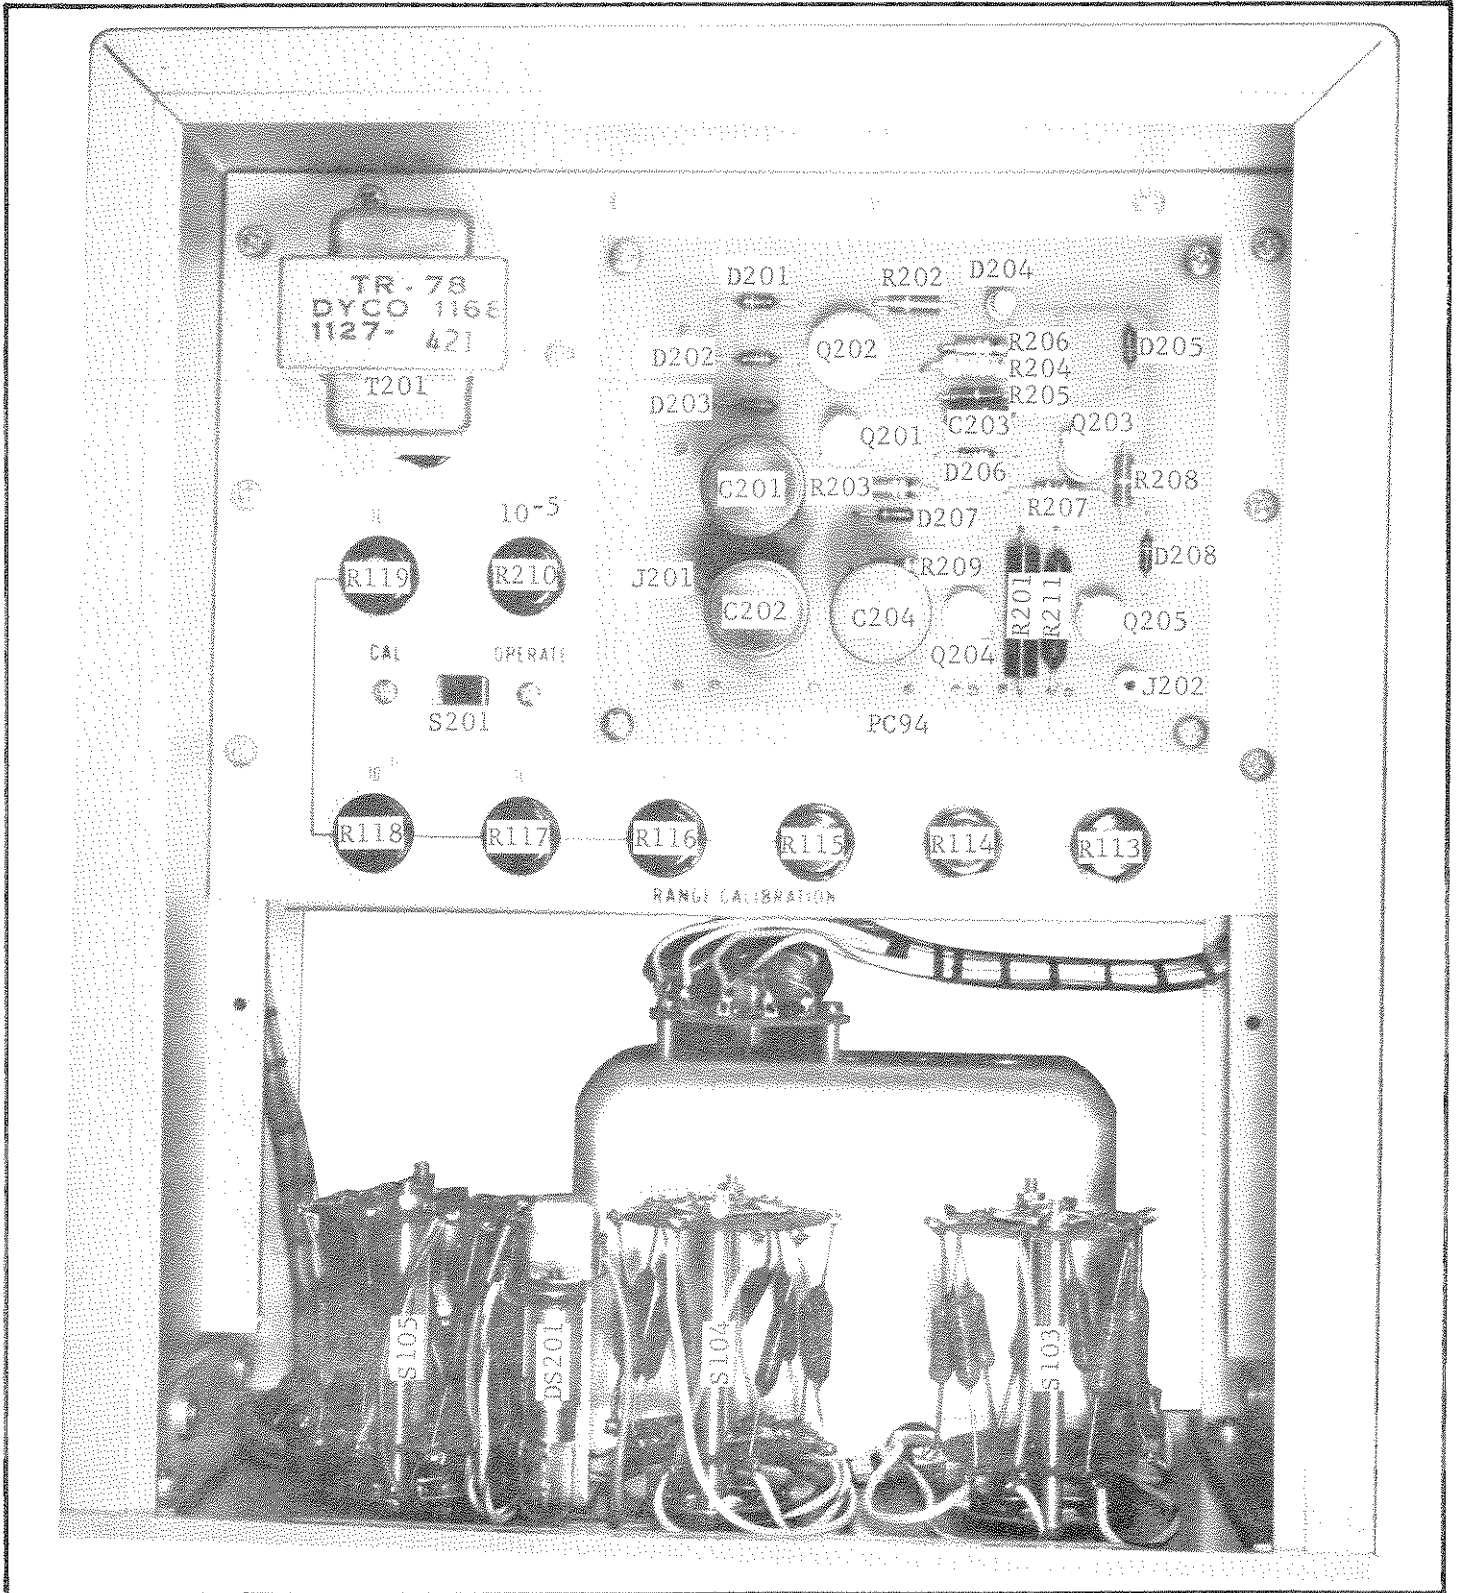

FIGURE 10. Chassis, Top View
1. Connect the Model 662 Differential Voltmeter across the Kelvin-Varley divider. Connect the positive lead to the grey-white wire on the X.01 Switch, S103, and the negative lead to the black-blue wire on the X1 Switch, S105 (Figure 10).
2. Set the CAL-OPERATE Switch S201 (Figure 10) to OPERATE. Set the Model 261 Range Switch to 10⁻⁵; set the POLARITY Switch to +. Set the Multiplier Switches to 10.00.
3. The Model 662 should read 10 volts ±5 millivolts. If necessary, adjust potentiometer R210 (Figure 10) for this output.
1. Disconnect the Model 261 power cord from the power source; remove the link from the COM Binding Post on the rear panel. Set the CAL-OPERATE Switch (Figure 10) to CAL. The CAL-OPERATE Switch is a 2-position slide switch. In CAL position, the low side of the range resistor is connected to chassis ground, and the low side of the OUTPUT Receptacle (threaded shell) is connected as a guard between the high side of the output and ground.
1. Set the Model 261 CAL-OPERATE Switch to OPERATE. Connect the Picoampere Source to the proper line source. Connect the Model 662 Differential Voltmeter across the Kelvin-Varley divider. Connect the positive lead to the grey-white wire on the X.01 Switch, S103, and the negative lead to the black-blue wire on the X1 Switch, S105 (Figure 10).
3. Adjust the 10^{-5} CAL Potentiometer, R210 (Figure 10), for 10.012 volts ± 5 millivolts when read on the Model 662. Setting the voltage 12 millivolts high compensates for any loading errors on the 10^{-5} ampere range.